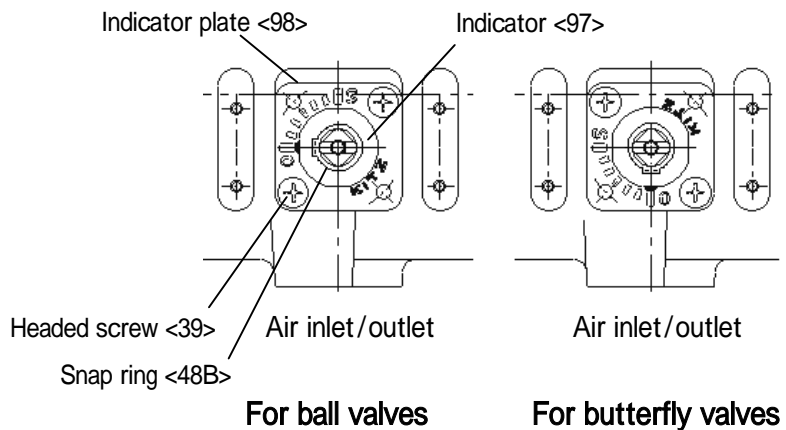

Fig.20
- (12) Mount an indicator plate on top of the housing with two headed screws so that Mark [O] may point (a) the left-hand of the housing for ball valves, or (b) the air inlet/outlet ports for butterfly valves as shown in **Fig.20**. After checking correct mounting of the indicator plate, assemble a position indicator through the shaft securely with a snap ring.